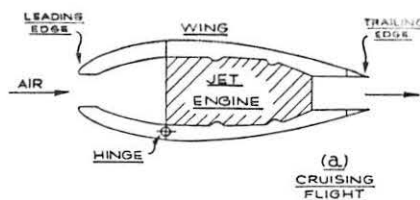
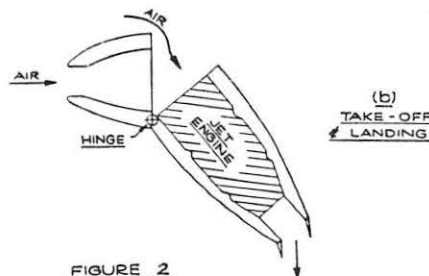

FIGURE 1
FIGURE 2
**Only Way:** To carry through any such future project a single engine and airframe design team would be absolutely necessary. How else could you ensure the precise integration and strength of the combined structure? In fact, it would be impossible to do it any other way. While this is truly an advanced idea, I find that others have been looking at similar possibilities. In glancing through an old copy of the Canadian Aeronautical Journal I noticed an article by F. C. Phillips and K. Irbitis, Chief of Aerodynamics and Preliminary Design Engineer of Canadair, respectively. These two engineers were reviewing possible lift and thrust systems of their application to short take-off and vertical take-off airplanes. One of the schemes they considered was a "propulsive wing". This wing has an engine, or a series of engines built into it. In cruising flight the leading edge of the wing is the intake and the trailing edge the exhaust, as shown in Figure 1. In the take off and landing condition, the whole rear of the wing including the engine, tilts down to provide high lift as shown in Figure 2. As the authors point out in their conclusions, "In the short take off and landing category the possibility of the high-lift propulsive wing should be examined."